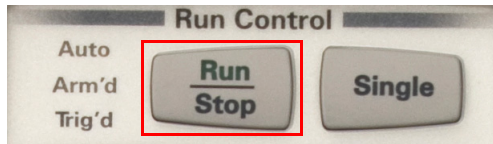

Figure 2-19 Run/Stop button in the Run Control section
- 1 Press  in the Run Control section as shown in Figure 2-19 to start a continuous data acquisition of the waveform.